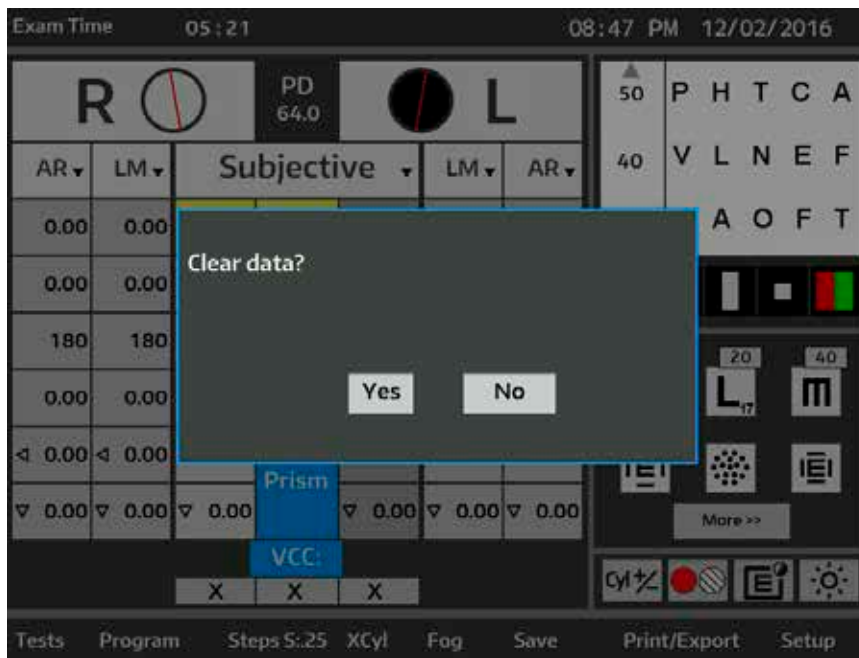

Figure IU-33 Clearing Data
1. Press the **C** button. A warning box appears. Refer to Figure IU-33.